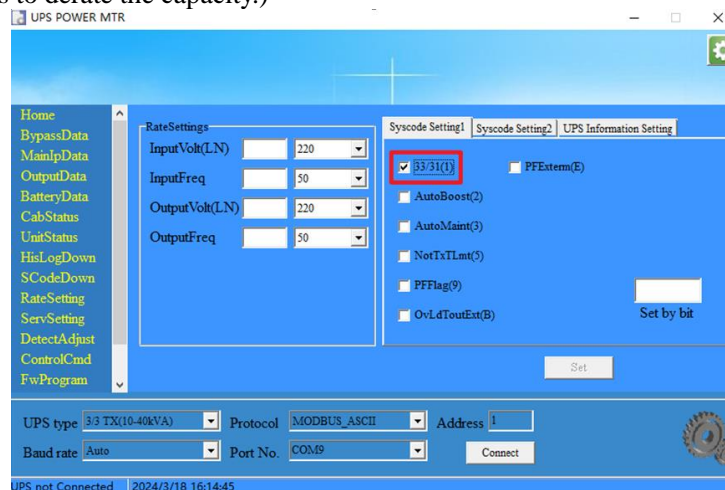

Figure 3-15 Setting interface of MTR software
- c. Close the external input breaker, connect the MTR software, and set the related parameters as Figure 3-15 below. Tick the box in front of the option “Out 3/1(1). Then completely cut off power and reboot to ensure settings working. (Only 10K and 20K machines support, 15K and 25K need to contact engineers to derate the capacity.)